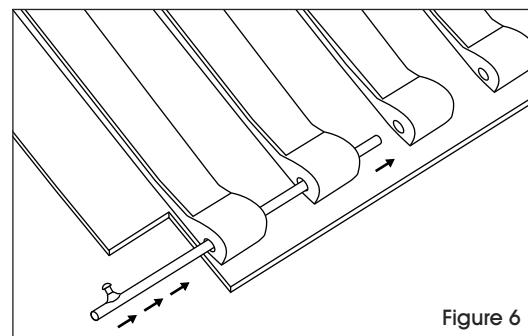

Figure 6
10. Insert hinge bar through all lid hinge sockets. (See Figure 6)